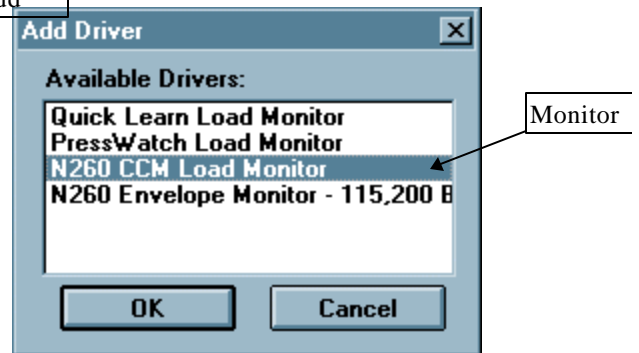

Figure 2b: Add Driver
9. Choose your monitor. Then choose OK.(See Fig. 2b).